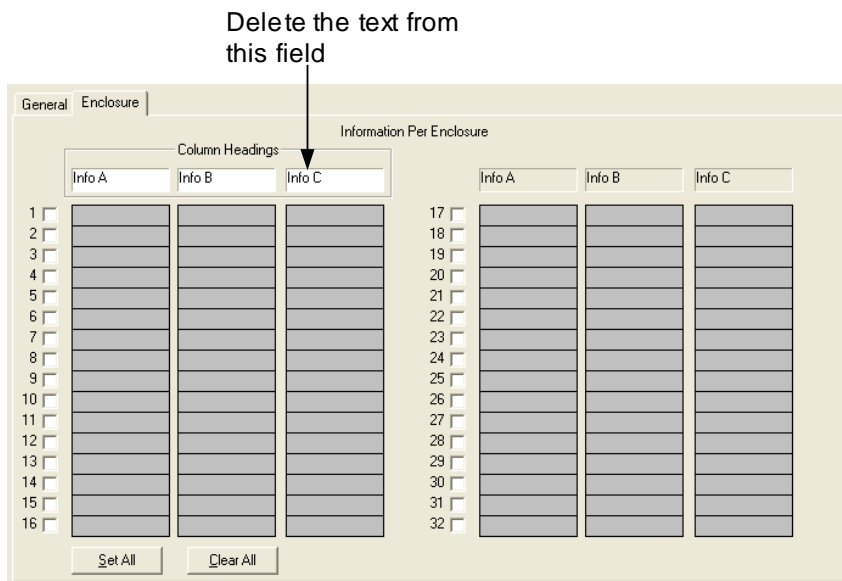

Figure 3-14. Modifying the **Enclosure** Tab on the Template Screen
- 19.** Click on the **Enclosure** tab. A screen similar to Figure 3-14 will appear. Modify the display as described in the figure.